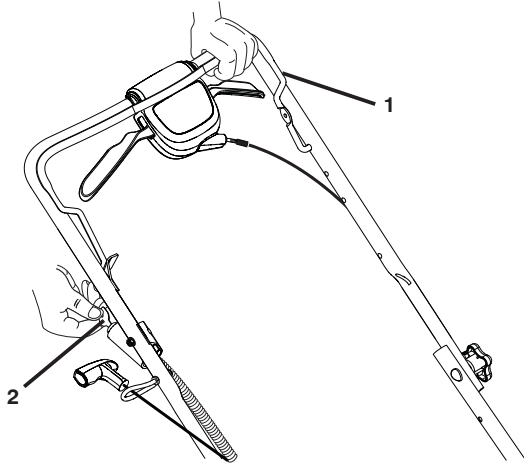

Figure 15
1. To start engine, hold operator presence control bar down to the handle and turn the start key (Figure 15).